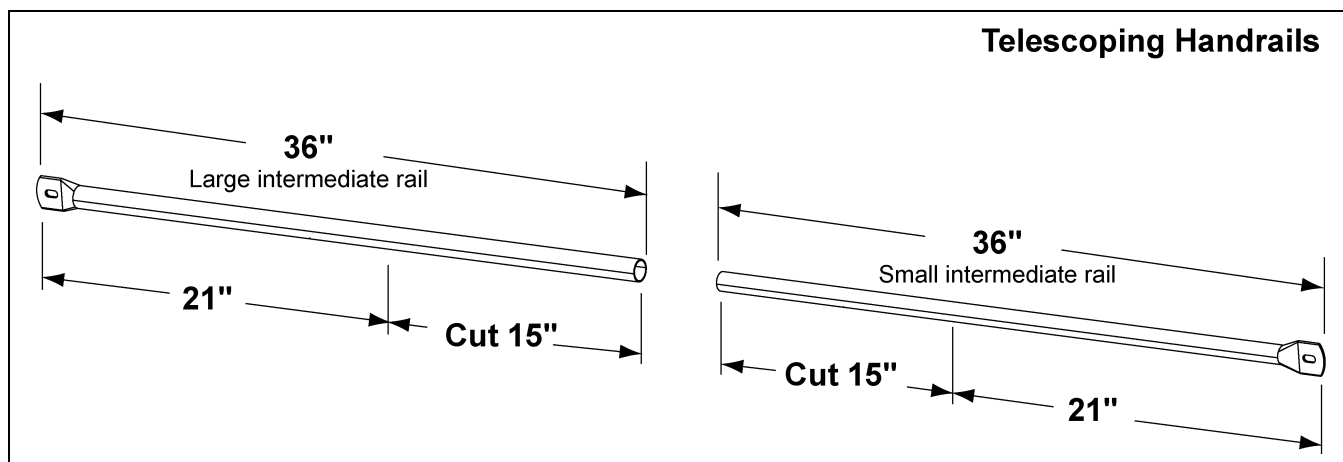

Figure 8S 21" Telescoping Handrail
2. Trim two (2) large and two (2) small rails by 15" each so that the remaining length of each rail, both small and large, is 21". (See Figure 8S.)